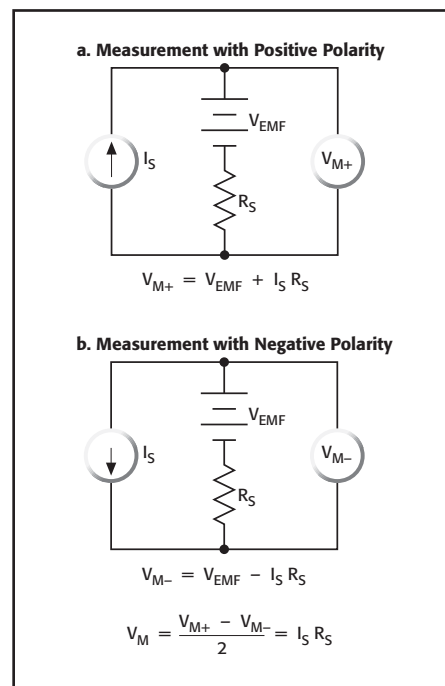

Figure 5b: Canceling thermoelectric EMFs with Current Reversal
- **Current Reversal Technique/Two-Step Delta Technique (Figure 5b)** Thermoelectric EMFs can also be cancelled by taking two voltages with test currents of opposite polarity. The voltage due to the test current can now be calculated using the formula shown in Figure 5b. This method provides 2x better signal-to-noise ratio and, therefore, better accuracy than the offset compensation technique. (This is the method employed by the Model 2182A Nanovoltmeter/Model 622x Current Source combination.)